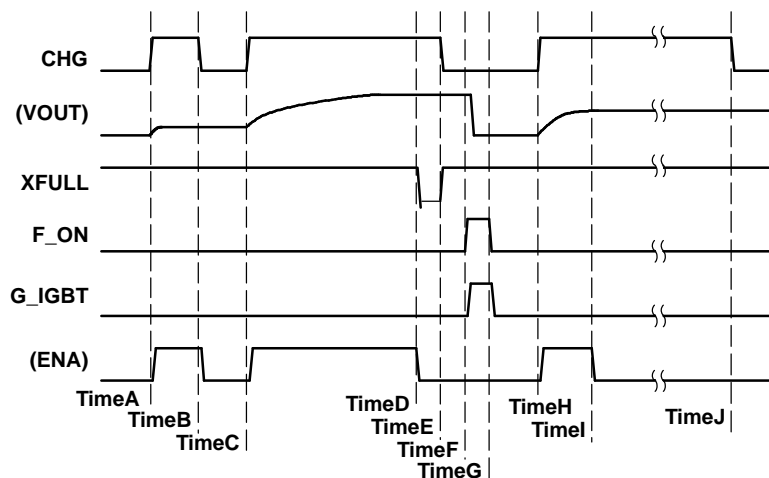

Figure 4. Whole Operation Sequence Chart
The only way to *start* charging is to input  $\text{CHG}\uparrow$  (see time A/C/H in Figure 4). Each time  $\text{CHG}\uparrow$  is reached, the TPS65552A starts charging.
1. Forced *stop* by inputting  $\text{CHG} = \text{L}$  from the controller (see timeB in Figure 4).
2. Automatic *stop* by detecting full charge.  $\text{VOUT}$  reaches the target value (see TimeD in Figure 4).
3. Protected *stop* by over  $V_{\text{DS}}$  detection (see TimeI in Figure 4).
The device starts charging at *timeH*, and over  $V_{\text{DS}}$  protection occurs at TimeI (see Figure 4). At timeI, XFULL stays H, and the controller detects over  $V_{\text{DS}}$  protection when the timer ends at timeJ. In this event, the controller inputs  $\text{CHG} = \text{L}$  to terminate the operation.
The IGBT driver provided by the TPS65552A is a simple buffer in the logical table. Table 3 shows the function (see Figure 4).
To avoid the stress of power dissipation, the TPS65552A provides an overvoltage monitor function at the SW terminal. If this protection occurs, the overvoltage status is latched (see Figure 4 and its descriptions).